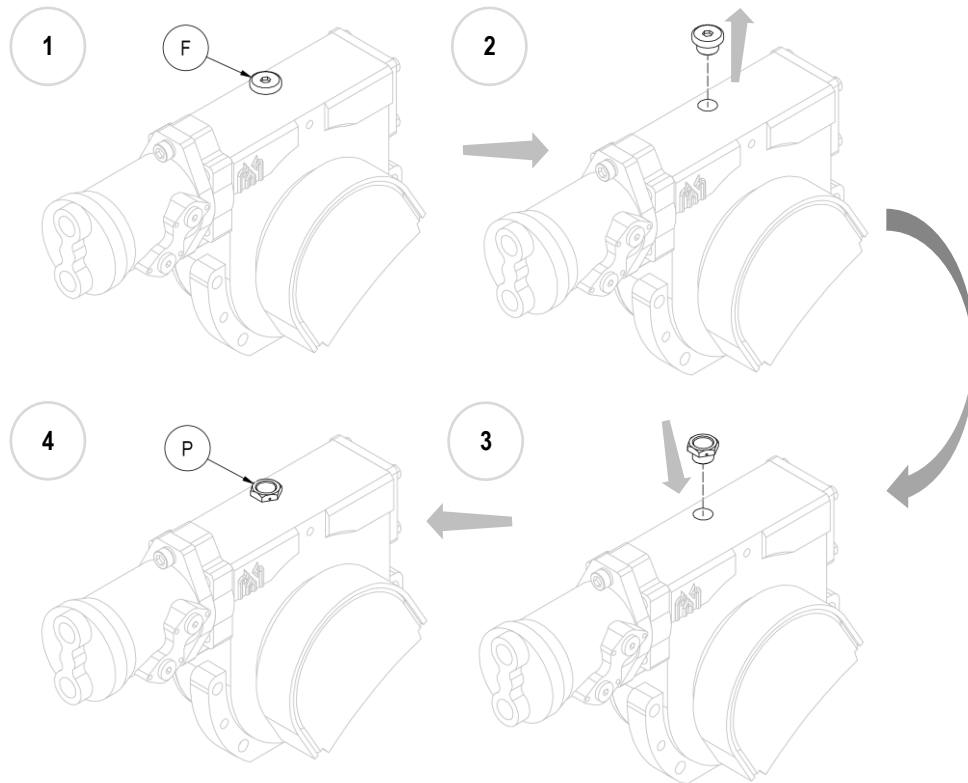

Figure 5
9. **N.B.** With the equipment mounted, replace the blind iron oil filler plug (F) with the plastic one supplied (P), which includes a breather (see *Figure 5*).